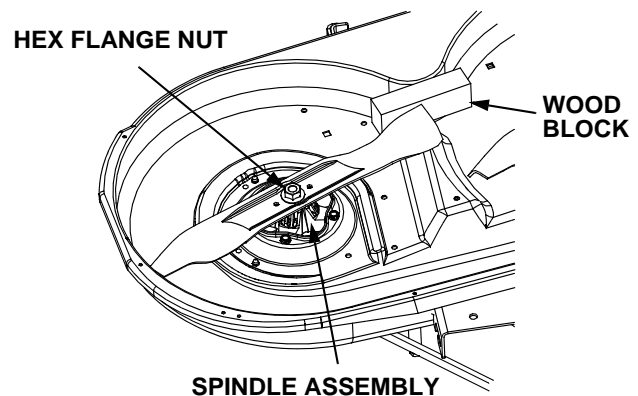

Figure 35
- Use a 15/16 inch wrench to hold the hex nut on top of the spindle assembly when loosening the hex nut securing the blade. A block of wood may be placed between the deck housing and the cutting edge of the blade to help in breaking loose the hex nut securing the blade. See Figure 35.